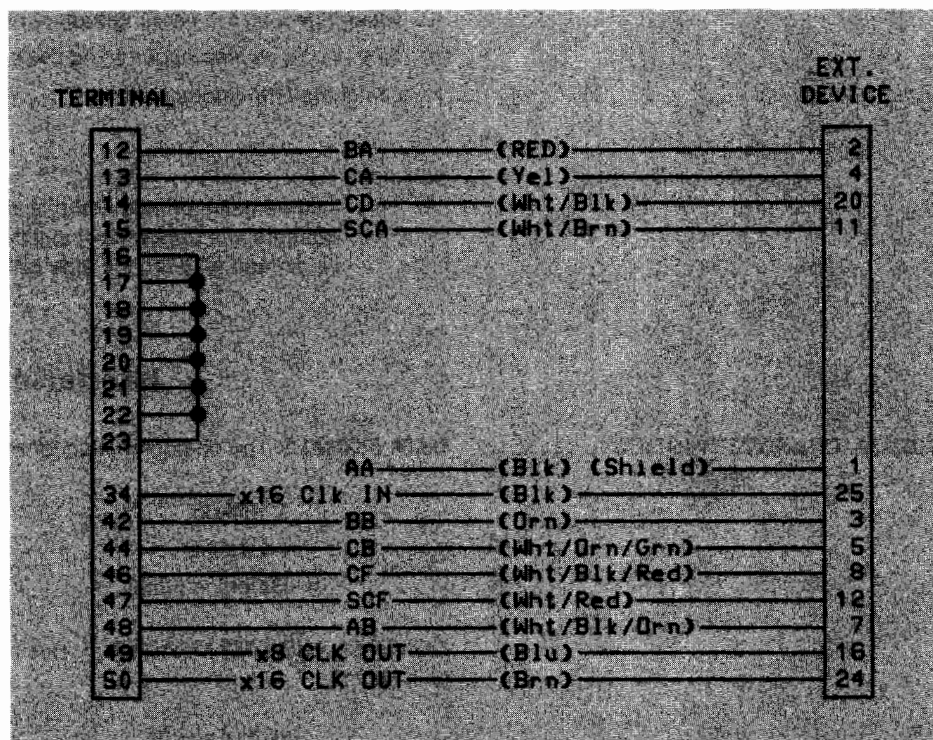

Figure 2-8. 13222C (RS232C) Cable Wiring
Pin-to-pin wiring for data communication cables is shown in figures 2-8 to 2-13. Table 2-1 translates the RS232C/CCITT V.24 (European equivalent) signal identification code for each signal to the name of the signal. For additional information, refer to the *HP Cabling Manual*, part no. 5952-2047.
1. Solder a bare wire, size 24 AWG, between the pins connected together in figures 2-8 through 2-11.